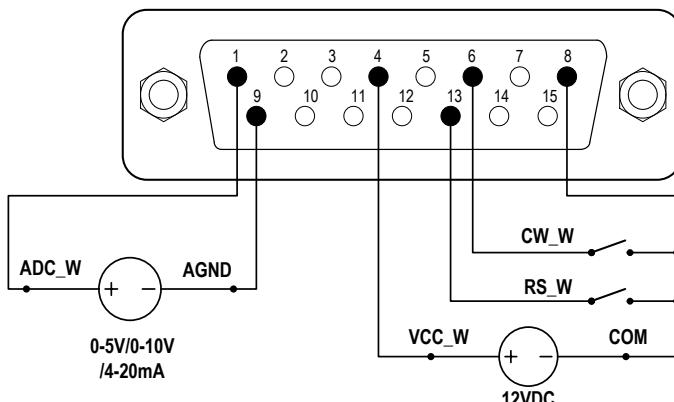

Figure 48. DB15 Wiring with External 12VDC Power Source
- 1) Switch the power off. Wire the DB15 connector as shown on Figure 48 or Figure 49, and connect it to the DB15 port on the rear of the pump.